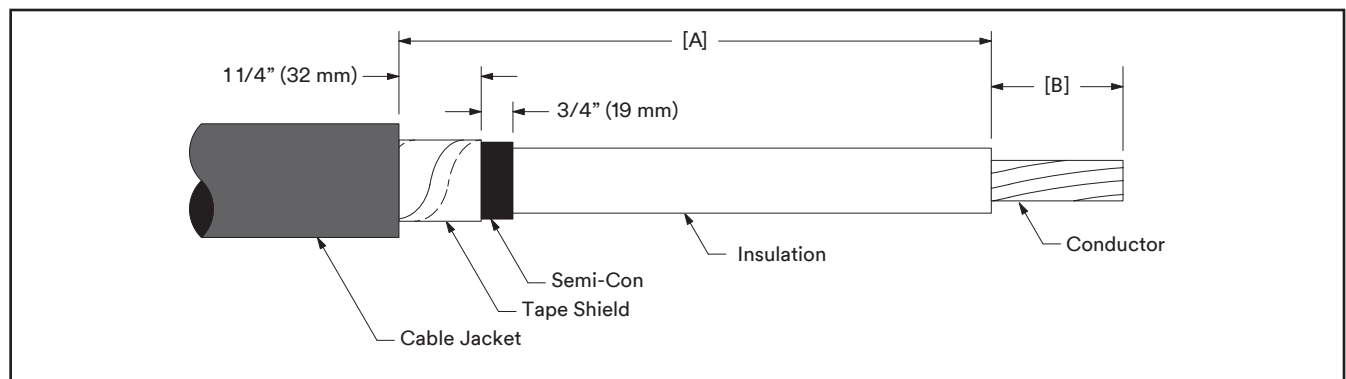

Figure 1
- 2.2 Prepare cable using dimensions shown in Figure 1 and Table 2. BE SURE TO ALLOW FOR DEPTH OF TERMINAL LUG Dimension [B] and see the NOTE below concerning Aluminum Lug and Connector growth allowances. If necessary to prevent tape shield from unrolling, hold down edge with a single wrap of 3M EMI Copper Foil Shielding Tape 1181.